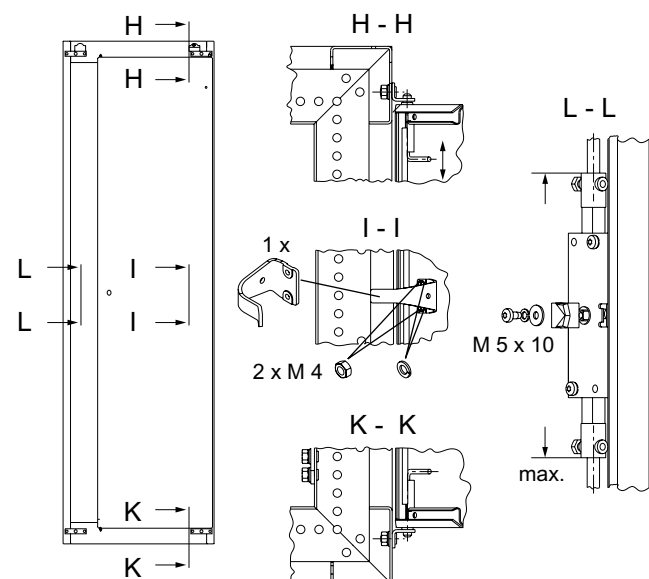

Fig. 10
- 1 When the doors are delivered unmounted, the door angle on the hinge side and the steel bracket mounting on the lock must be taken into consideration. See Sections "L-L" and "I-I" in Figure 10.
- 3 The 4, or respectively 6, door support angles are each mounted to the frame with one M 8x15 threaded bolt and one M 8 nut hat is secured with a contact washer. See Sections "H-H" and "K-K" in Figure 10.